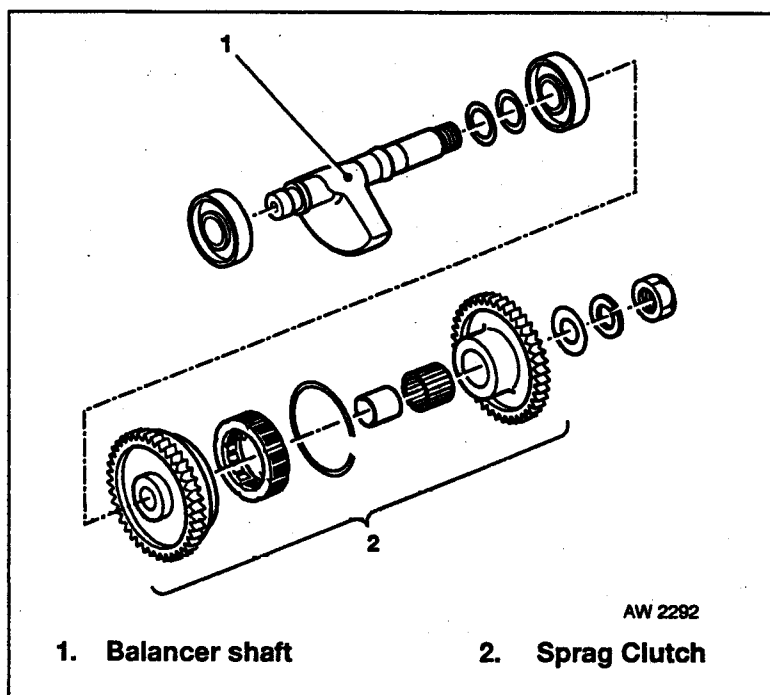

Fig 7.4 Starter Sprag Gear Clutch
a. **General.** Figures 7.4 and 7.5 refer. The starter motor is continuously engaged, driving an idler gear which drives a one-way (sprag) gear clutch mounted on the end of the balancer shaft.